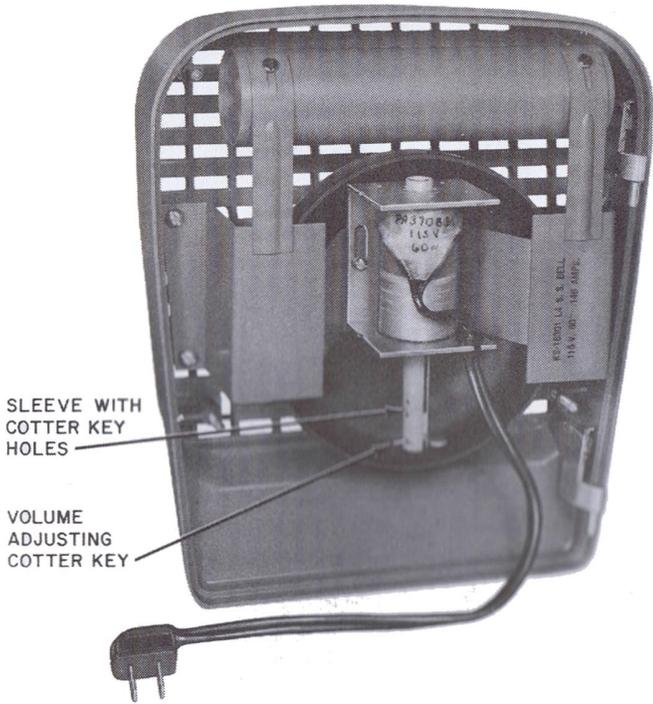

Fig. 9—KS-16301, List 4 Bell
6.02 The KS-16301, L4 (single-stroke bell) uses a cotter key volume adjustment. The signal is shipped with the key inserted through the lowest of the three holes in the sleeve that contains the plunger for maximum volume. To decrease volume, move cotter key to intermediate or top hole in the sleeve (Fig. 9).